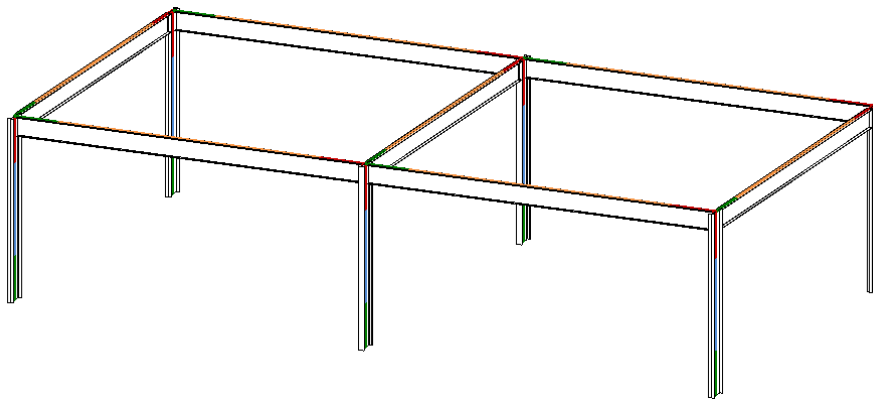
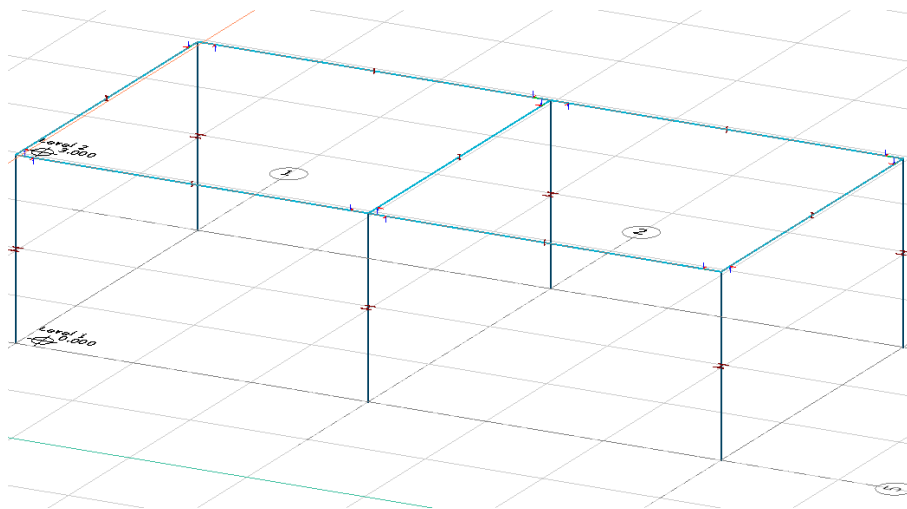

Figure 6-2
Figure 6-3
1. In the first step, model shown in Figure 6-2 has been exported from Revit to struxml file and opened in FEM-Design (Figure 6-3).